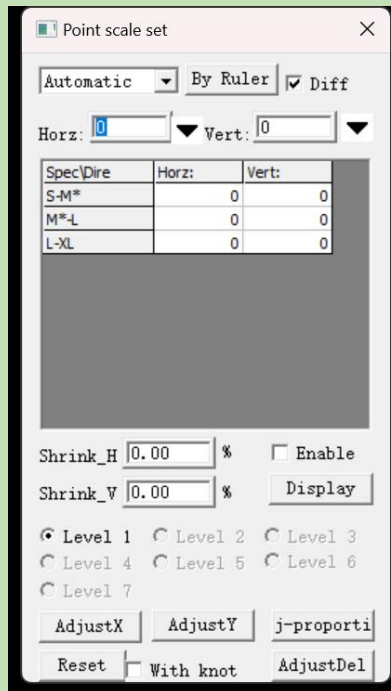

Figure10-27
2. Select the grading type as shown in Figure 10-27.